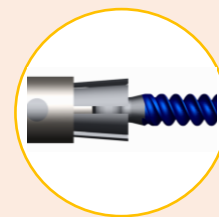

Figure 7b
- Insert the distal tip of the Modular Screw Driver into the screw. (Figure 7b)